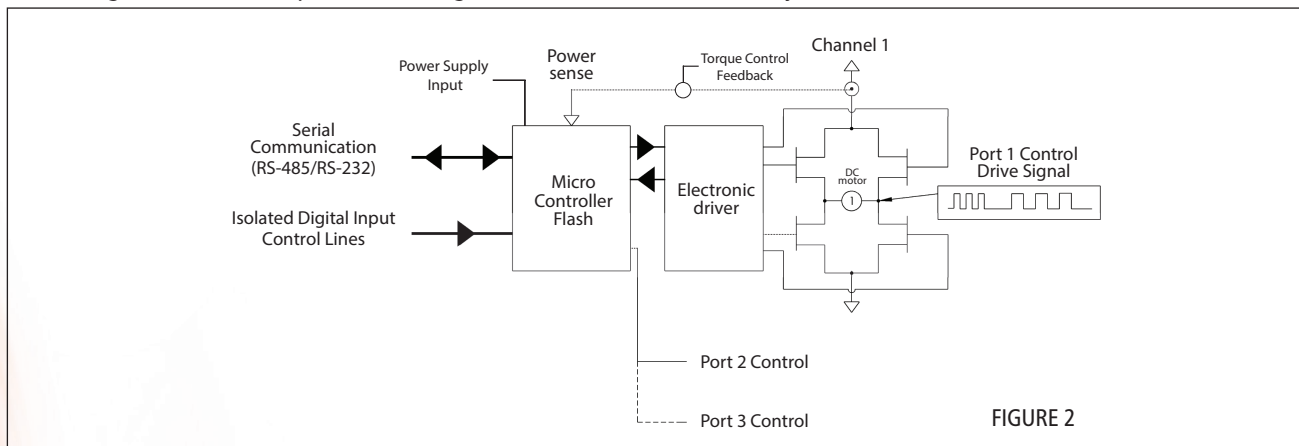

FIGURE 2
Figure 2 shows the valve electronic actuation aspects. Each motor is controlled through an H bridge driver. The H bridge allows direction, speed and torque control over the motor. A pulse width modulation technique (PWM) and other parameters are used to reliably control valve operations regarding its specifications (pressure, speed, multiple actuation, diaphragm type).
■ The Figure 2 shows a simplified block diagram of the electronic actuation system.